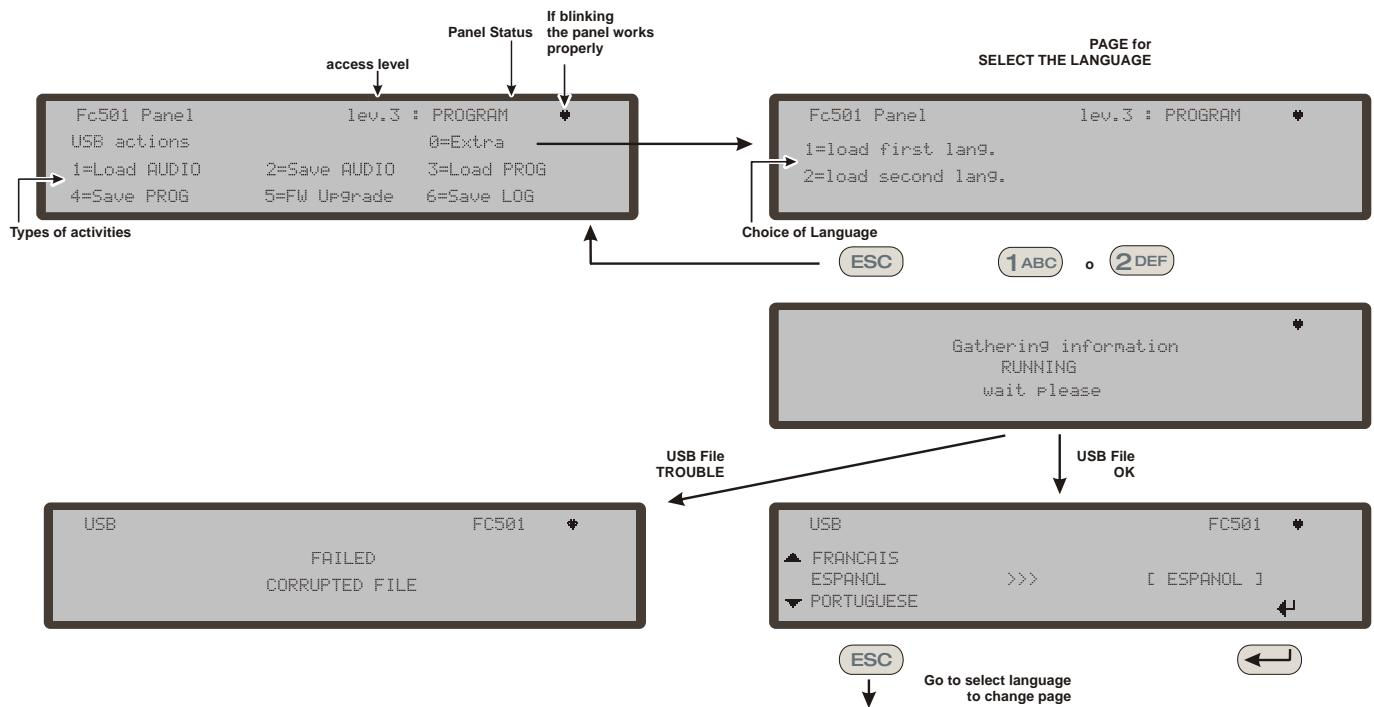

Figure 7 - The scheme in the figure displays the LCD pages sequence required by this feature: "Language strings download during panel run time".
3. Press 0 - EXTRA (see scheme on Figure 7).